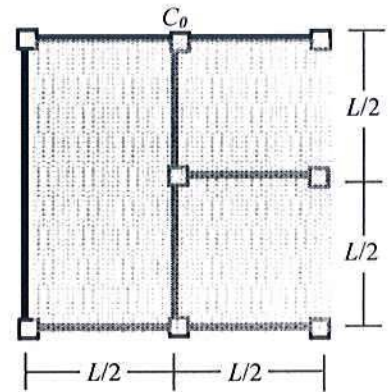

Fig. 7
8. The ground floor plan of a 10-storied RC frame (with 9' high columns) is shown in Fig. 7. All beams are uniformly loaded at  $w_u = 4.4$  k/ft.